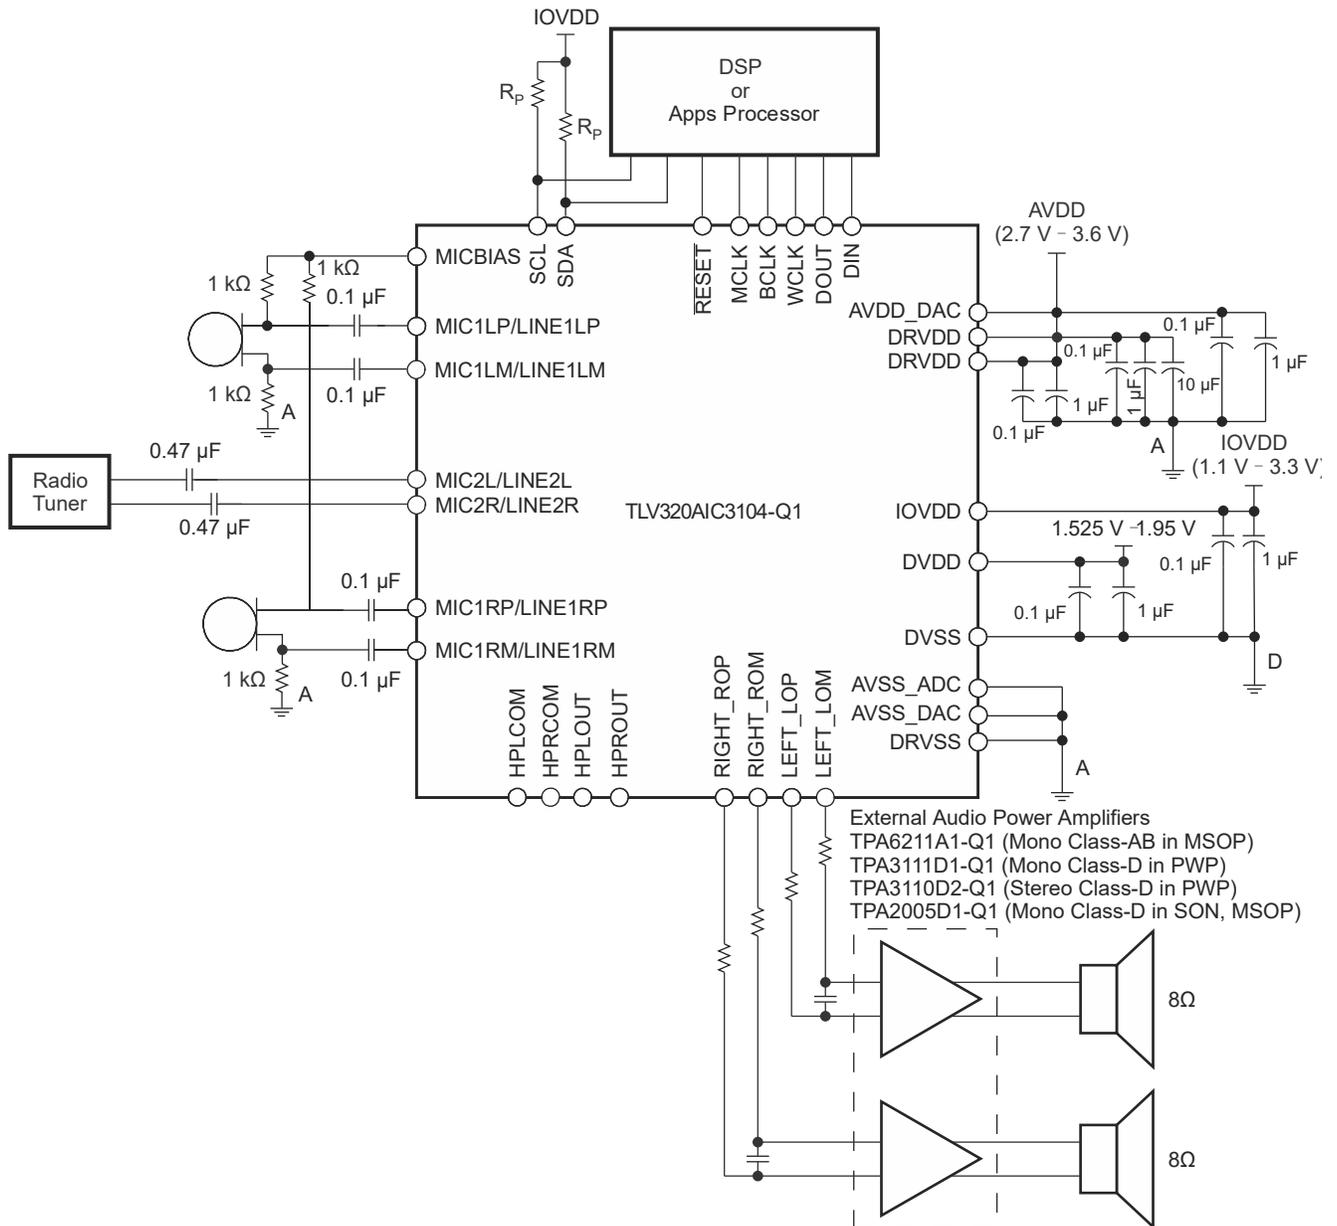

图 10-1. Typical Connections With Differential Inputs for External Speaker Driver
- Use 图 10-1 as a guide to integrate the hardware into the system.